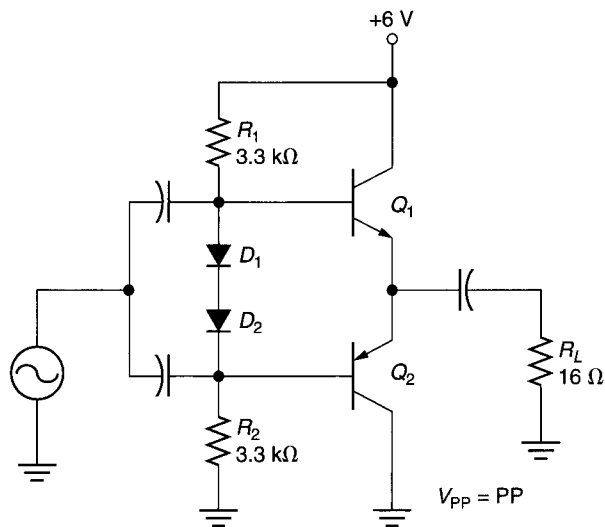

FIGURE 11.59
38. Calculate the maximum efficiency of the class AB amplifier in Figure 11.59.